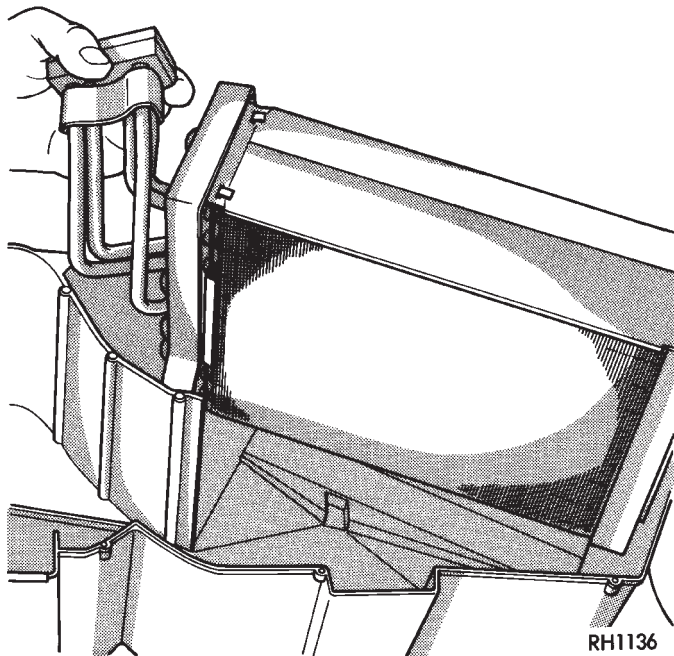

Fig. 21 Removing or Installing A/C Evaporator Coil
(5) Remove A/C evaporator coil out of unit (Fig. 21).